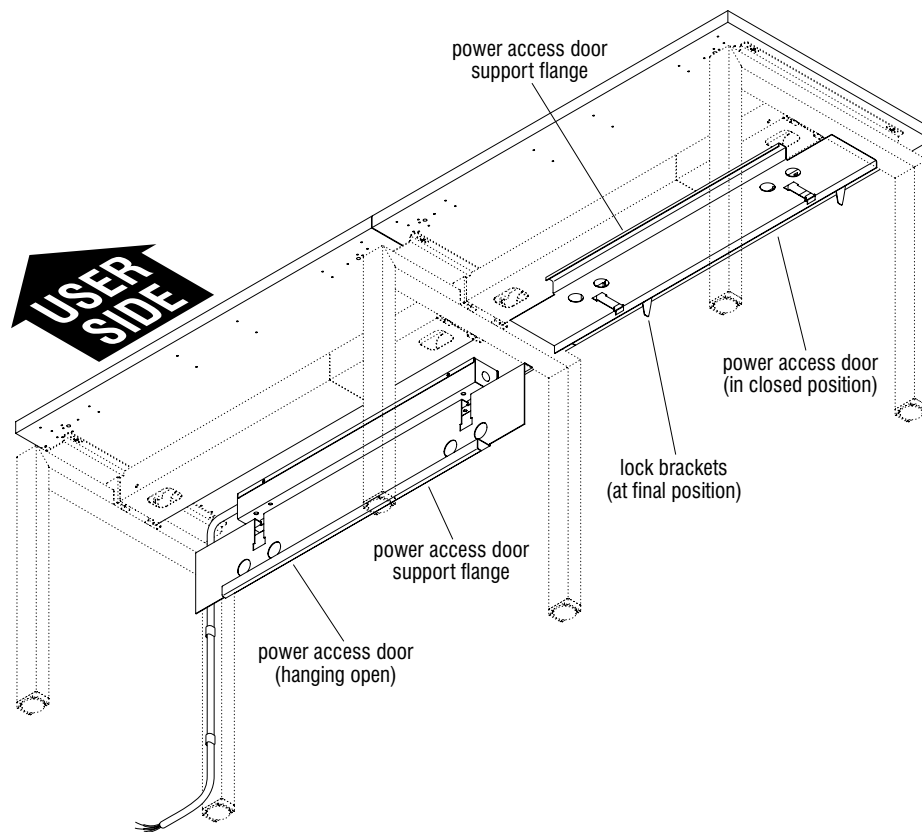

**Figure 34 - Single-Sided Fixed Benching Hardwire Power Access Door Installation**
9. Go now to page 26 and follow all instructions (Figures 34 & 35) to install the "power access door(s)" to the "power door tabs" of the junction box mounting brackets, and properly complete the assembly of the modesty panel or lock brackets to the underside of the worksurface.
10. Position the power access door as illustrated with the "key-hole slots" facing toward the "power door tabs" of the installed hardwire junction box. With the modesty panel brackets rotated to make room, push the power access door back toward the brackets, then up allowing the "power door tabs" to move down through the larger opening of the "key-hole slots". Once both sets of tabs have moved through the slot and engaged the door so it can not fall, pull the power access door toward the user-side with the tabs holding the door in position (Figure 34).
11. Rotate the right- and left-hand modesty panel brackets (or lock brackets if no modesty panels are specified) straight, aligning the remaining bracket mounting holes with the pre-drilled holes in the underside of the worksurface. Secure each bracket with remaining #12 x 1" PPH screws. Take care to make sure all screws are secure (Figure 34).